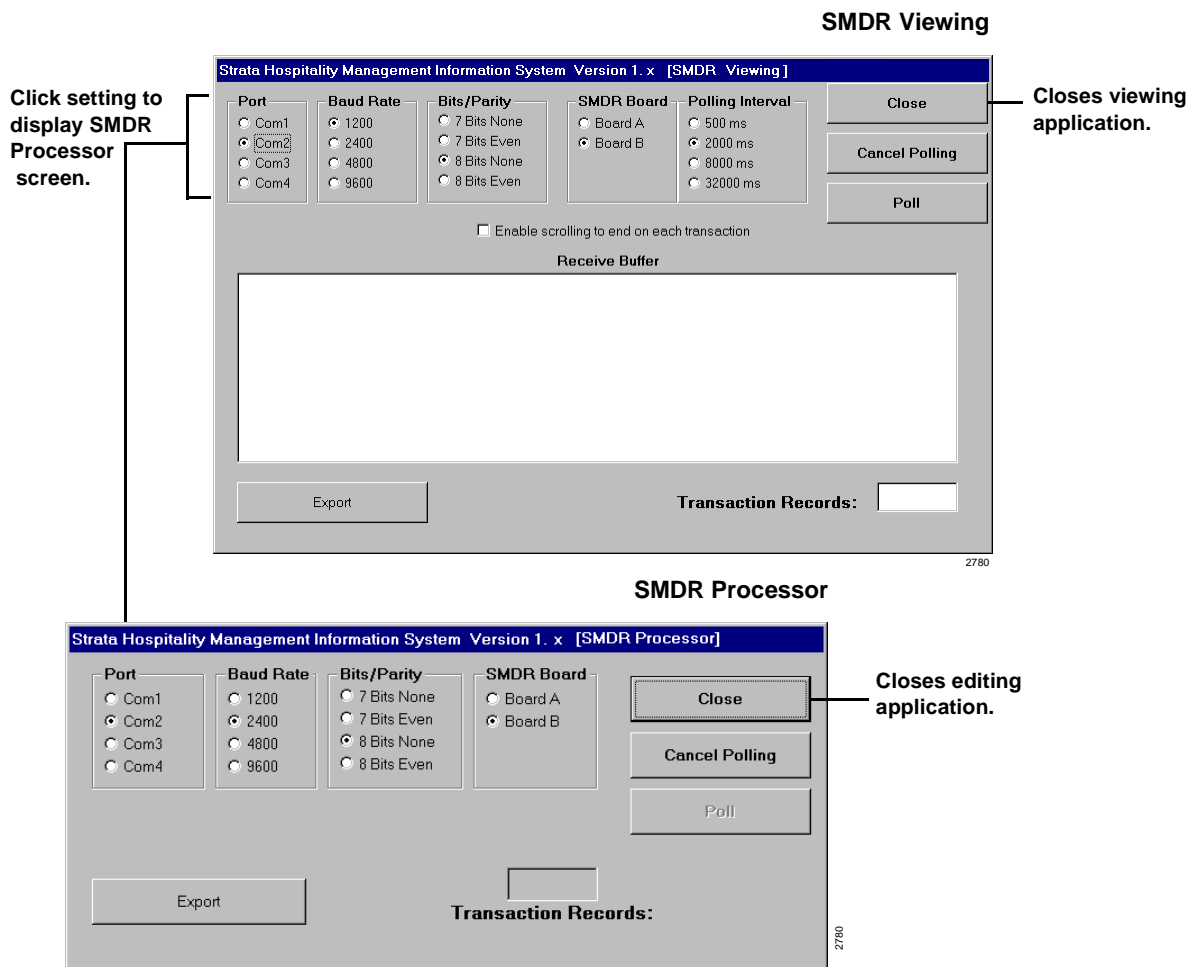

Figure 15-12 SMDR Viewing/Processor Screens
These screens (see Figure 15-12) contain HMIS SMDR port settings and an exporting feature which enables you to export data to an ASCII file for checking trunk utilization. See Table 15-3 on Page 15-22 for screen field descriptions.
1. From the SMDR Viewing screen, check the SMDR settings on the screen (see Figure 15-12 on Page 15-21).
The SMDR Processor screen displays (see Figure 15-12 on Page 15-21).